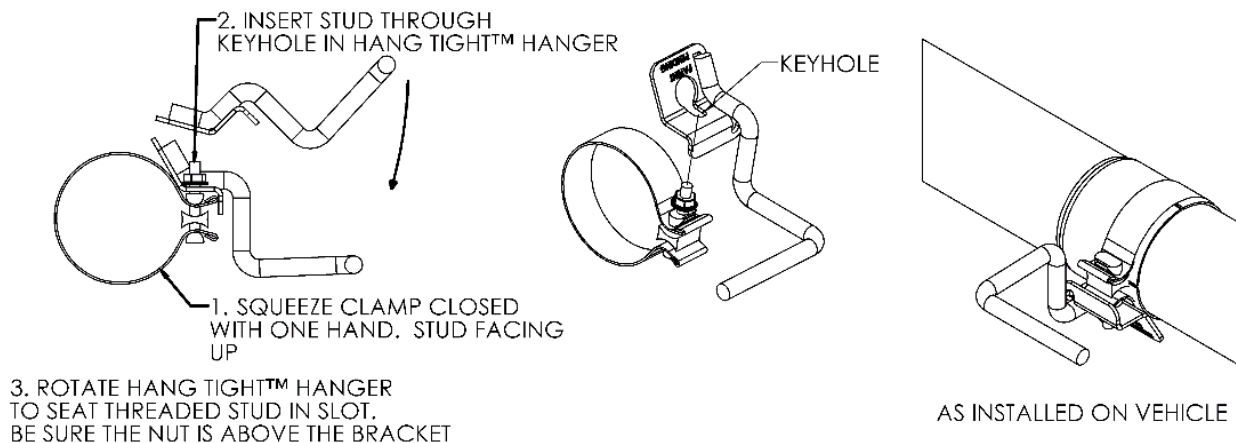

Figure 1 (Hanger not as shown)
3. Slide the **Front Hang Tight™** (see **Figure 1** for Hang Tight™ instructions) over the inlet of the **Muffler**. Then install the **Muffler** over the **Extension Pipe** and place the **Front Hang Tight™** into the OEM rubber hangers above the inlet.